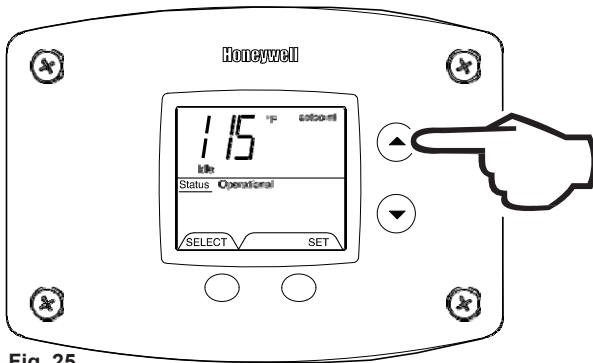

Fig. 25
1. Depress and hold 'Temperature Up' button until desired setpoint temperature appears in the display (Fig. 25).